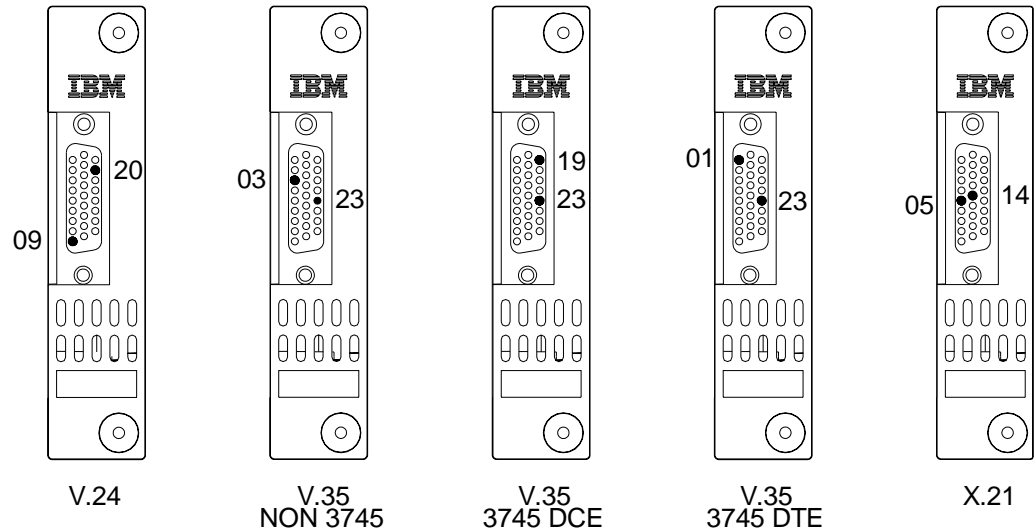

Figure 8-13. ARC Type
1. ____ According to the plugging sheet information, identify the ARC type (see Figure 8-13, note that ARC V.35 DTE is no more provided) and plug the ARC in the LCBB/LCBE locations (see Figure 8-9 on page 8-11).